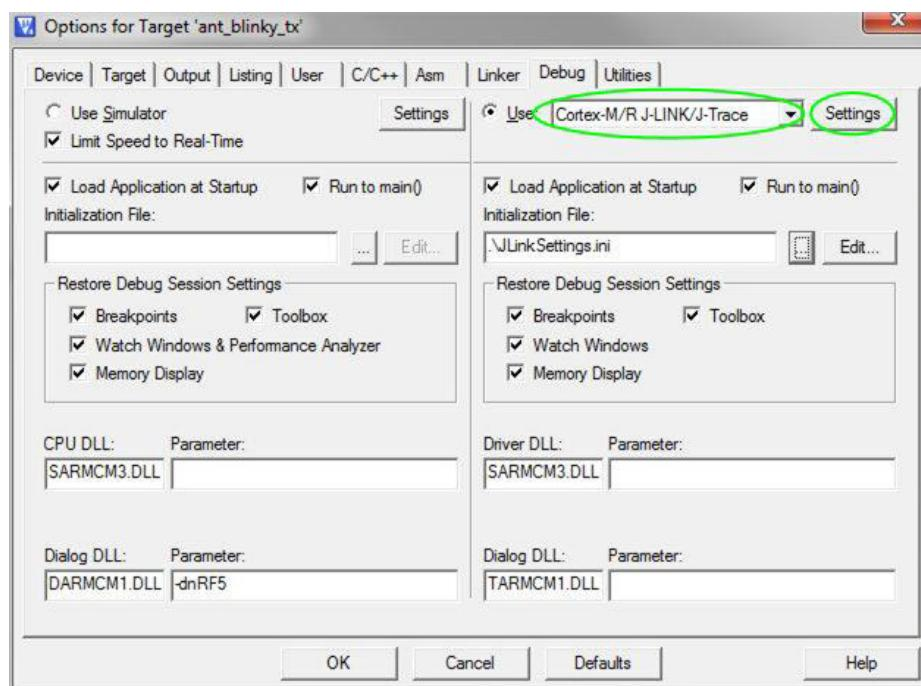

Figure 36 Selecting JLink debugger in Keil
3. Under the **Debug** tab in the Use list, select **J-LINK / J-Trace Cortex** option as shown in *Figure 36*.
4. Click the **Settings** button shown in *Figure 36*. Both the SEGGER Control Panel and the Keil Target Driver Setup will open.